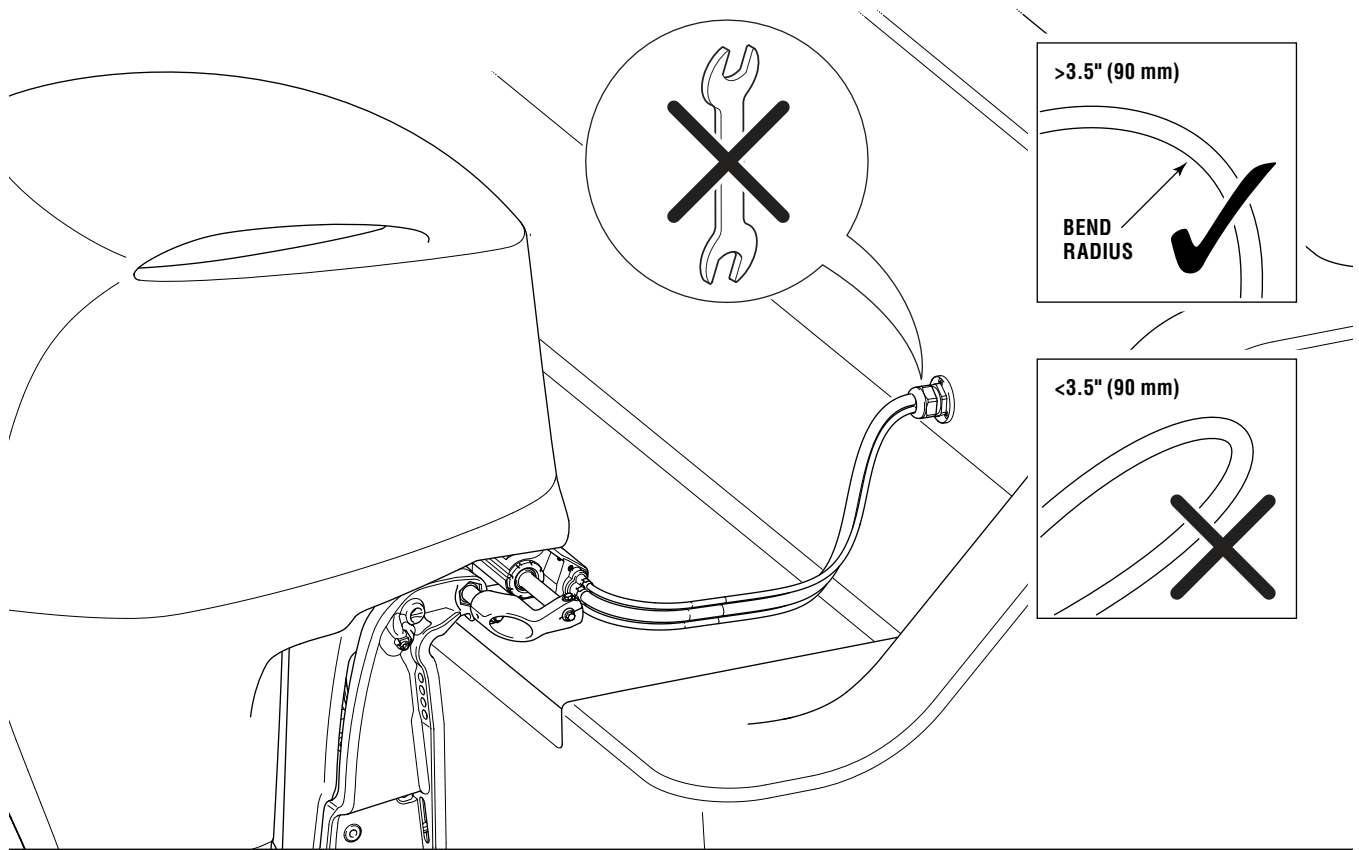

Figure 5-3. Gradual loop.
3. Adjust the amount of harness pulled through the bulkhead until there is enough slack for the actuator to move through its full stroke, as well as trim and tilt, without restriction or interference. Ensure the harness bend radius is not less than 3.5" (90mm) at any point in the actuator's steering range, or in the trim/tilt range. You should end up with a nice loop from bulkhead fitting to the actuator as shown in figure 5-3.